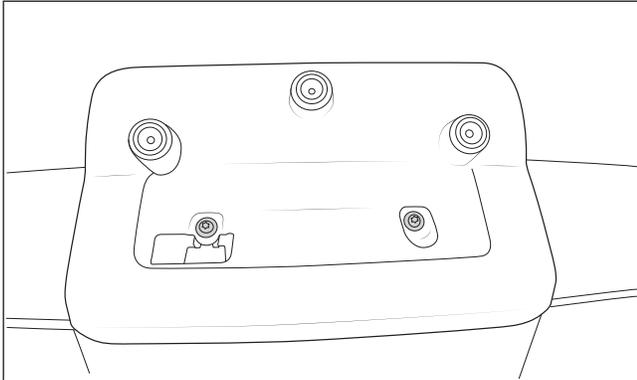

Figure 5
1. Re-use the factory screws to attach the bezel base to the dash (fig. 5).